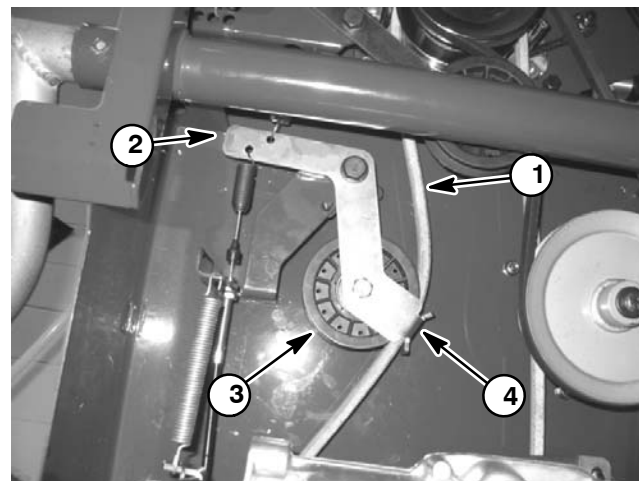

Figure 2
3. Loosen flange nuts (item 9) that secure belt guides to machine. Rotate belt guides away from traction drive belt.
4. To allow removal of traction drive belt from idler pulley (Fig. 2), loosen cap screw (item 12) and lock nut (item 3) that secure idler pulley to idler bracket. Remove belt from idler pulley.
2. Position traction drive belt to idler pulley and bracket making sure that belt is placed between pulley and guide on bracket (Fig. 2). Tighten cap screw (item 12) and lock nut (item 3) to secure idler pulley to idler bracket.